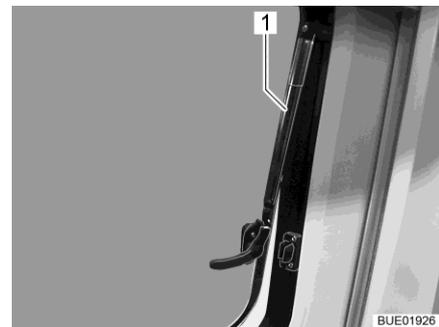

Fig. 13 Hinged window with automatic hinges, open
- Open hinged window half up to the required position. Allow the hinged window to engage automatically with the automatic hinge (Fig. 13,1).